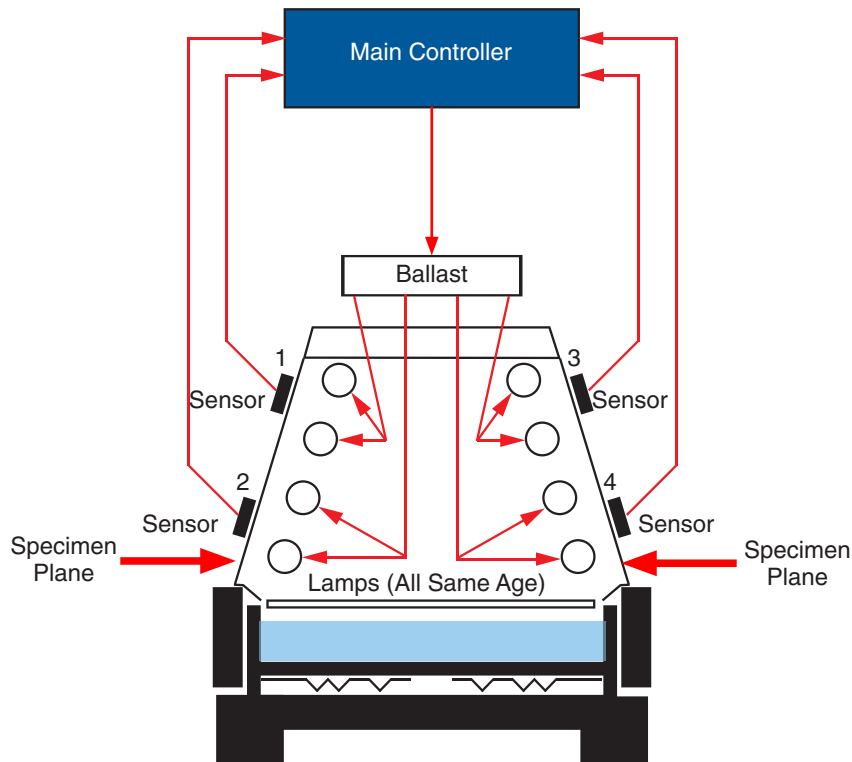
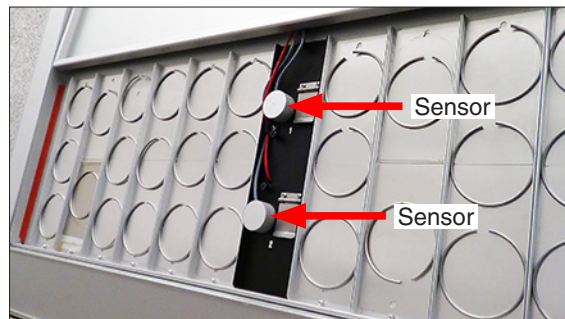

Figure 6.2a: Irradiance control system schematic.
Figure 6.2b: UV sensors.
- An irradiance control system monitors the UV intensity via four sensors at the sample plane (Figure 6.2a and Figure 6.2b).